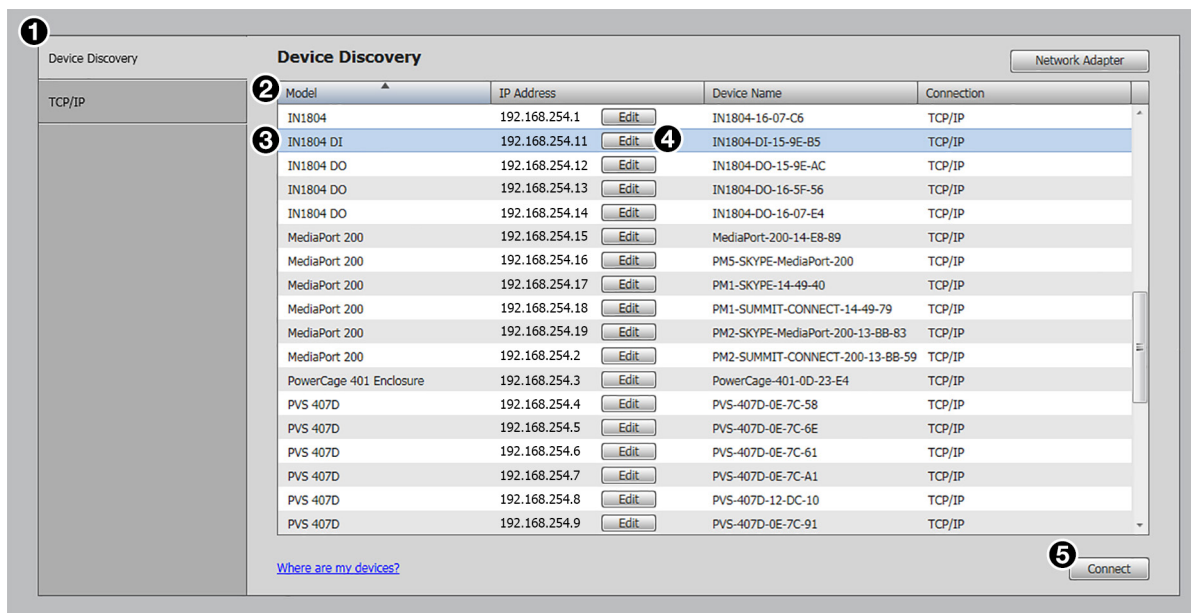
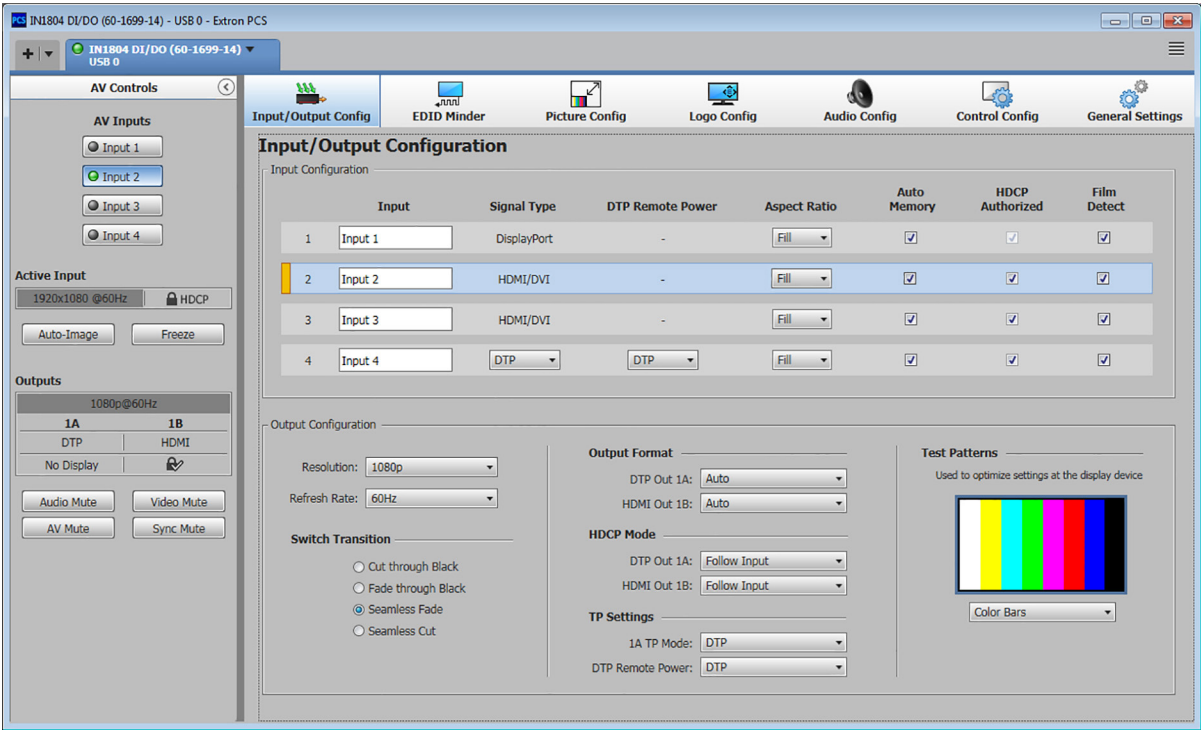

Figure 37. Device Discovery Screen
Figure 41. IN1804 DI/DO Main Window
1. Click the **Device Discovery** tab (see figure 37, **1**).
When you select a device on the **Device Discovery** screen (see figure 37 on page 84), the IN1804 main screen opens. All configuration tasks are initiated from this screen. Figure 41 shows an example of an IN1804 DI/DO main screen.